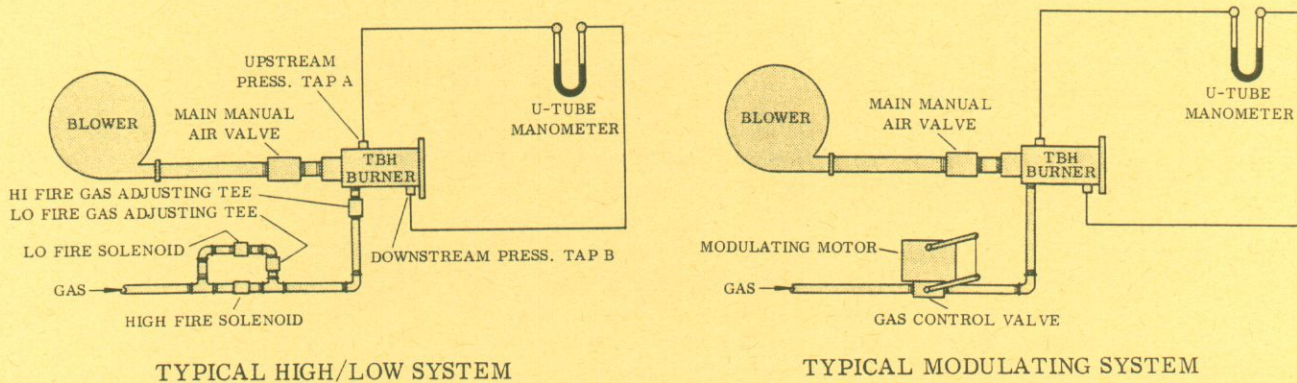

FIGURE 3
5.2 Control of the discharge air temperature is accomplished by controlling the gas only, either by the use of a drive motor and gas valve arrangement or by the use of a high/low solenoid. (See Figure 3.)
- 6.1 Connect a U-tube manometer across the upstream and downstream pressure taps provided in the burner body. (See Figure 3.)